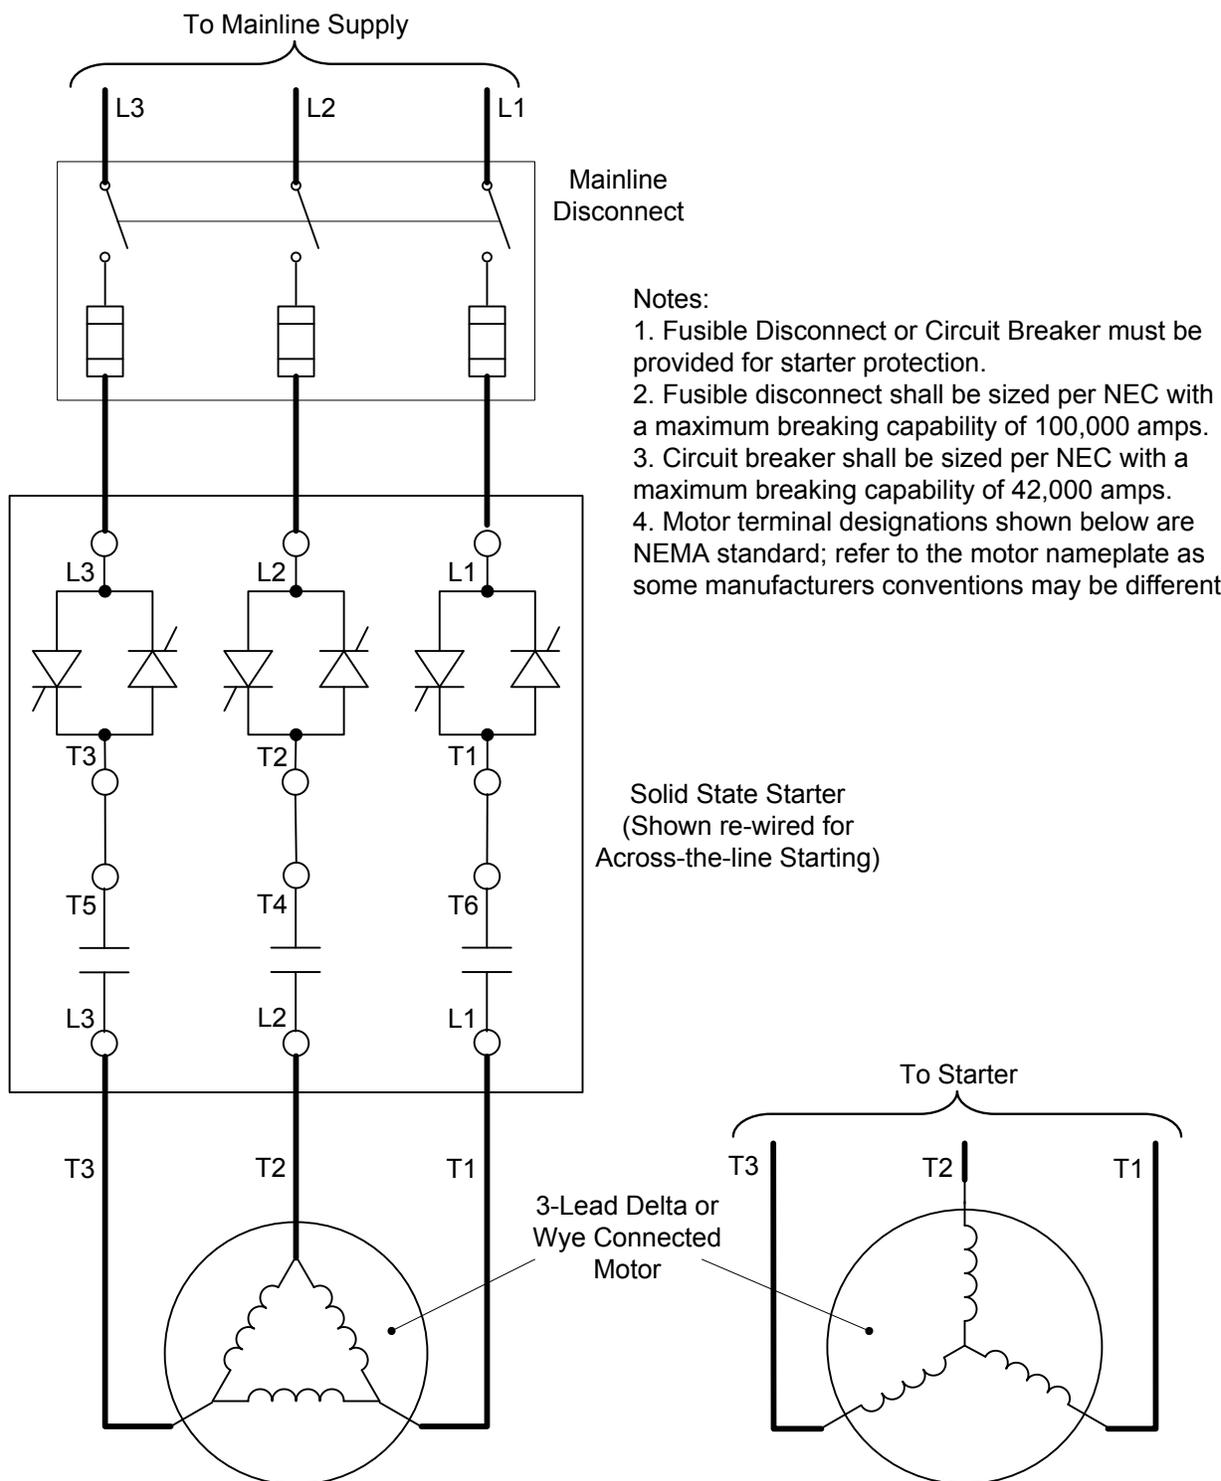
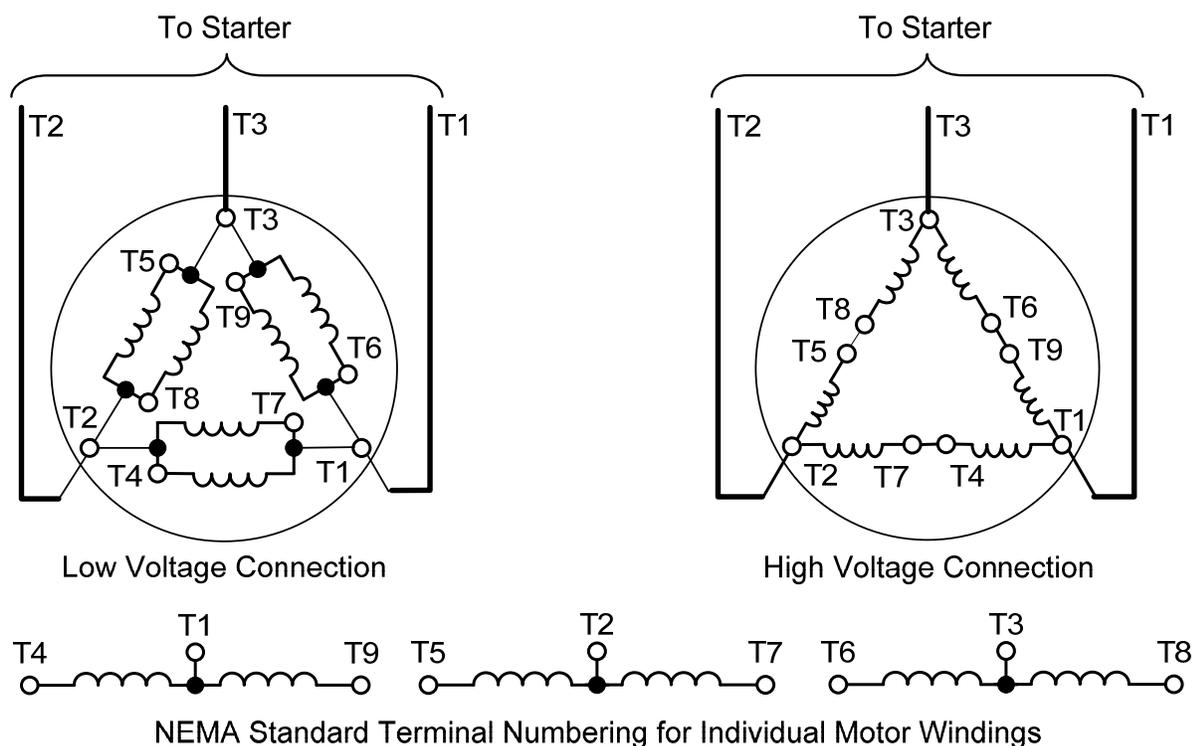

Figure 8: Mainline and Motor Wiring for Across-the-Line Connection
Figure 9: 9-Lead Motor Wiring for Across-the-Line Connection
Refer to Figure 8, Mainline and Motor Wiring for Across-the-Line Connection. Connect the mainline supply from a fused disconnect or circuit breaker to power module terminals L1, L2, and L3. Connect the motor to fault contactor (FC) terminals L1, L2, and L3. Torque the mainline power and motor terminal setscrews according to Table 6 or the labels on the power/control module and FC terminal blocks. Across-the-Line connections for a 9-lead motor are shown in Figure 9.
17, 18	MUS, Motor up to Speed. Solid state switch indicates the start sequence is finished and a load can be applied to the motor. R C suppression required if MUS is driving an inductive load such as a relay or solenoid. 120 VAC only. Refer to Figure 9 for example. MUS Closed: Run command is active and the start sequence is finished (motor speed > 85%). Permissive to apply a load to the motor. MUS Open: Run Command inactive, Run Command is active and the start cycle is in progress (motor speed < 85%), or fault contactor operated during run cycle (2 sec delay).